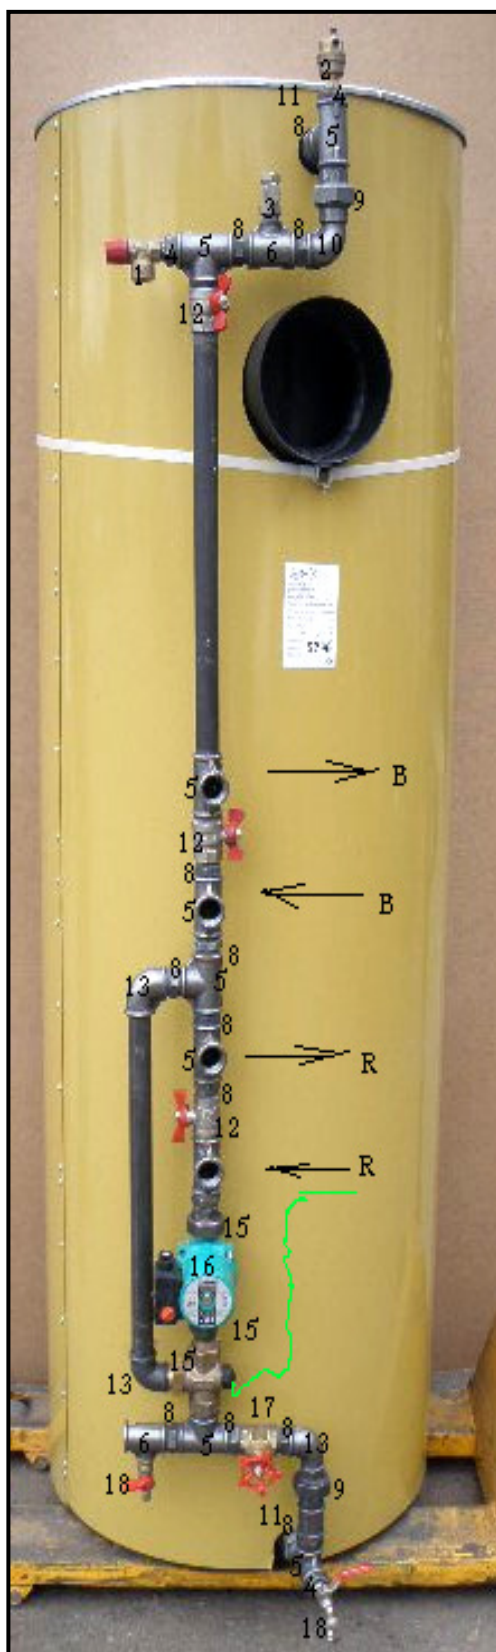

Fig. 7.1. Plumbing node without floor heating and other boiler.
- 1,5 bar pressure safety valve involves into the opening (17) (fig. 2.1.). Instead trident (5), use a bend D25 SME (10) (fig. 7.1.).